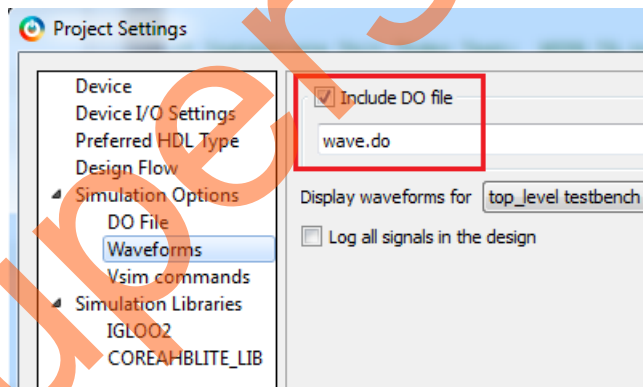

Figure 15 • Waveforms Settings
6. Click **Project > Project Settings > Simulation Options > Waveforms**. Figure 15 shows the Waveforms settings on the right.
7. Select the **Include DO File** check box and enter wave.do in the box as shown in Figure 15.